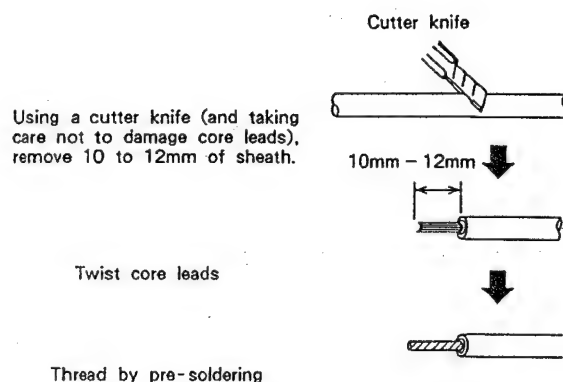

Fig. 9-3 Anode cable sheath peeling
- The method used to peel the sheath back is illustrated in Fig. 9-3. Use a cutter knife, taking care not to damage the core leads.